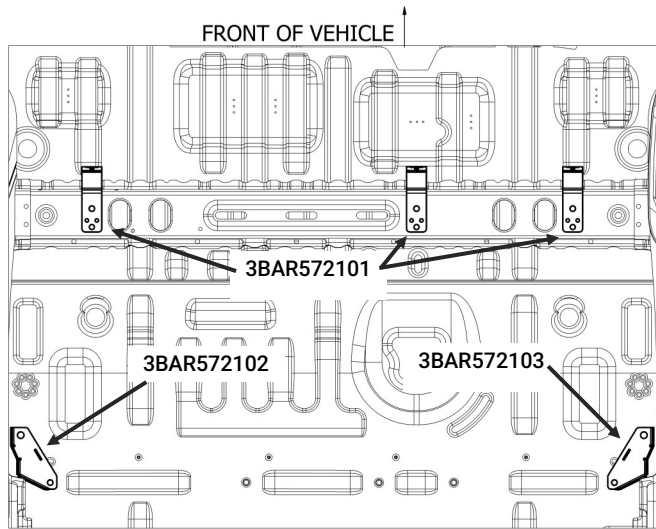

Figure 1
1. Locate the points where the barrier will mount. Figure 1 shows the brackets in their location on the sheet metal floor pan—the floor covering is not shown.